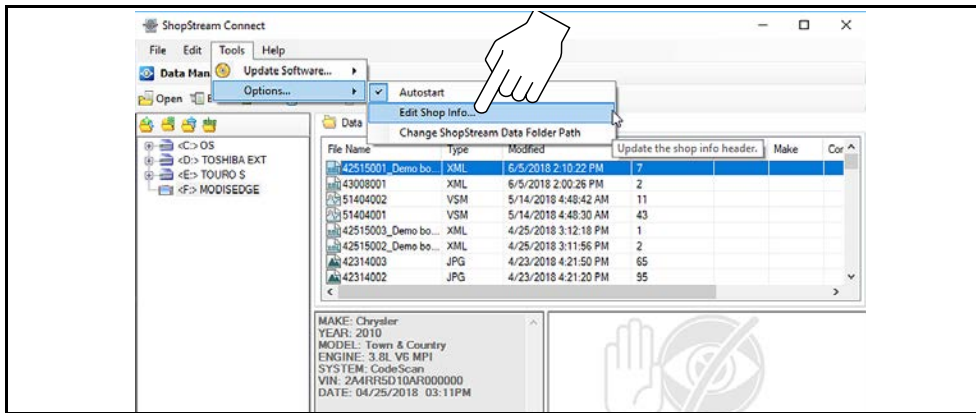

Figure 13-8
1. From ShopStream Connect, select **Tools > Options > Edit Shop Info** (Figure 13-8).